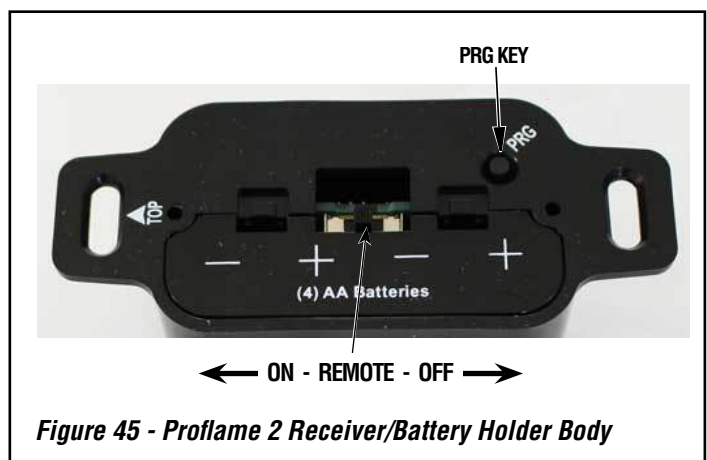

Figure 45 - Proflame 2 Receiver/Battery Holder Body
Install the 4 AA batteries in the Proflame 2 receiver/battery holder battery bay. **NOTE:** the polarity of the battery and insert into battery bay as indicated on the cover (+/-). Place the 3 position slider switch in the "Remote" position (**Figure 45**). Insert the end of a paper clip or similar object into the hole marked "PGR" on the receiver front cover (**Figure 45**). The receiver will beep three (3) times to indicate that it is ready to synchronize with a Remote control. Install the 3 AAA type batteries in the Remote control battery bay, located on the base of the Remote control and push the On button. The receiver/battery will "beep" four times to indicate the Remote control's command is accepted and set to the particular code of that Remote control. The system is now initialized.